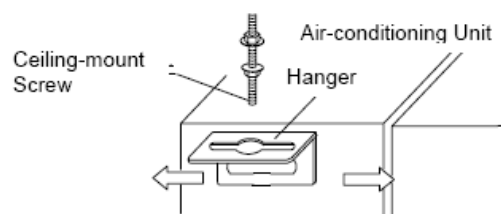
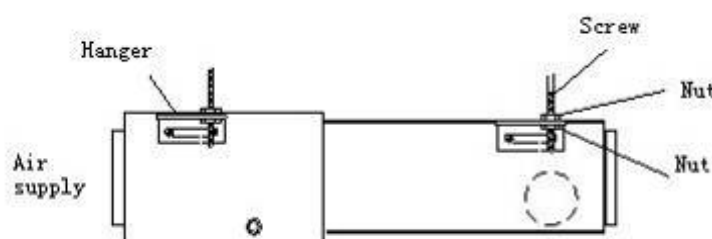

Figure 1-1-2
Figure 1-1-3
4) Install the hanger onto the indoor unit as Figure 1-1-2 and Figure 1-1-3 shows.